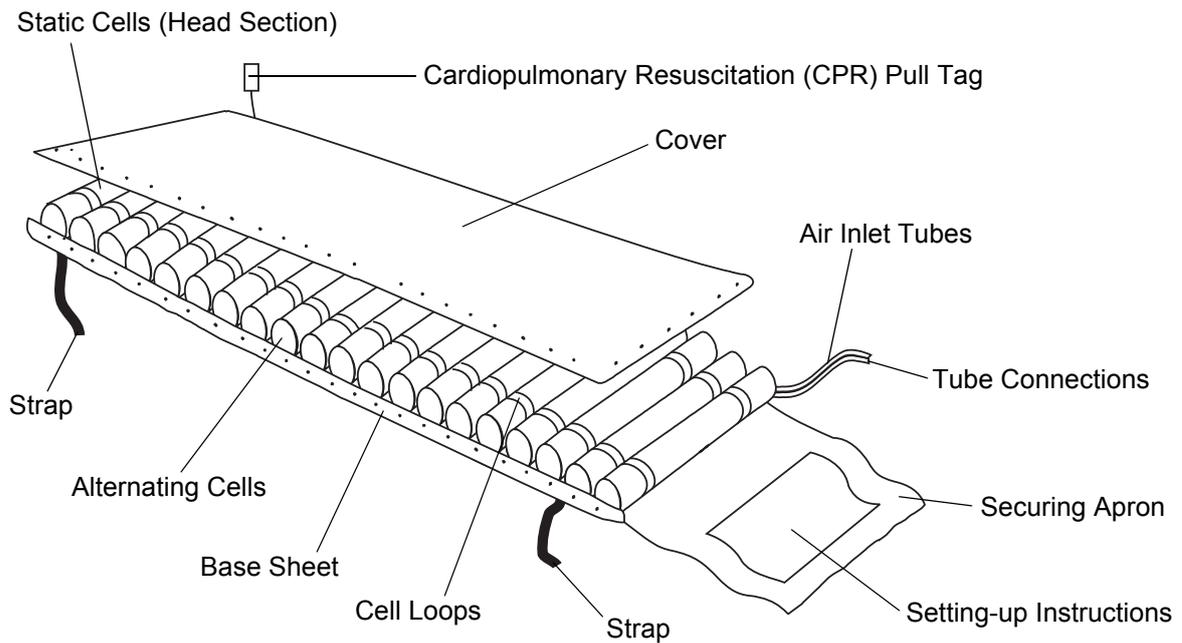

Figure 1 - Typical Mattress Overlay (OL) System
A typical mattress overlay (OL) system is shown in Figure 1. It includes a base sheet, alternating and static cells (which are individually replaceable), a cover, air inlet tubes (with connectors where applicable) and a Cardiopulmonary Resuscitation (CPR) pull tag (also referred to as a Rapid Deflate stopper). The cell configurations are detailed in Table 2.